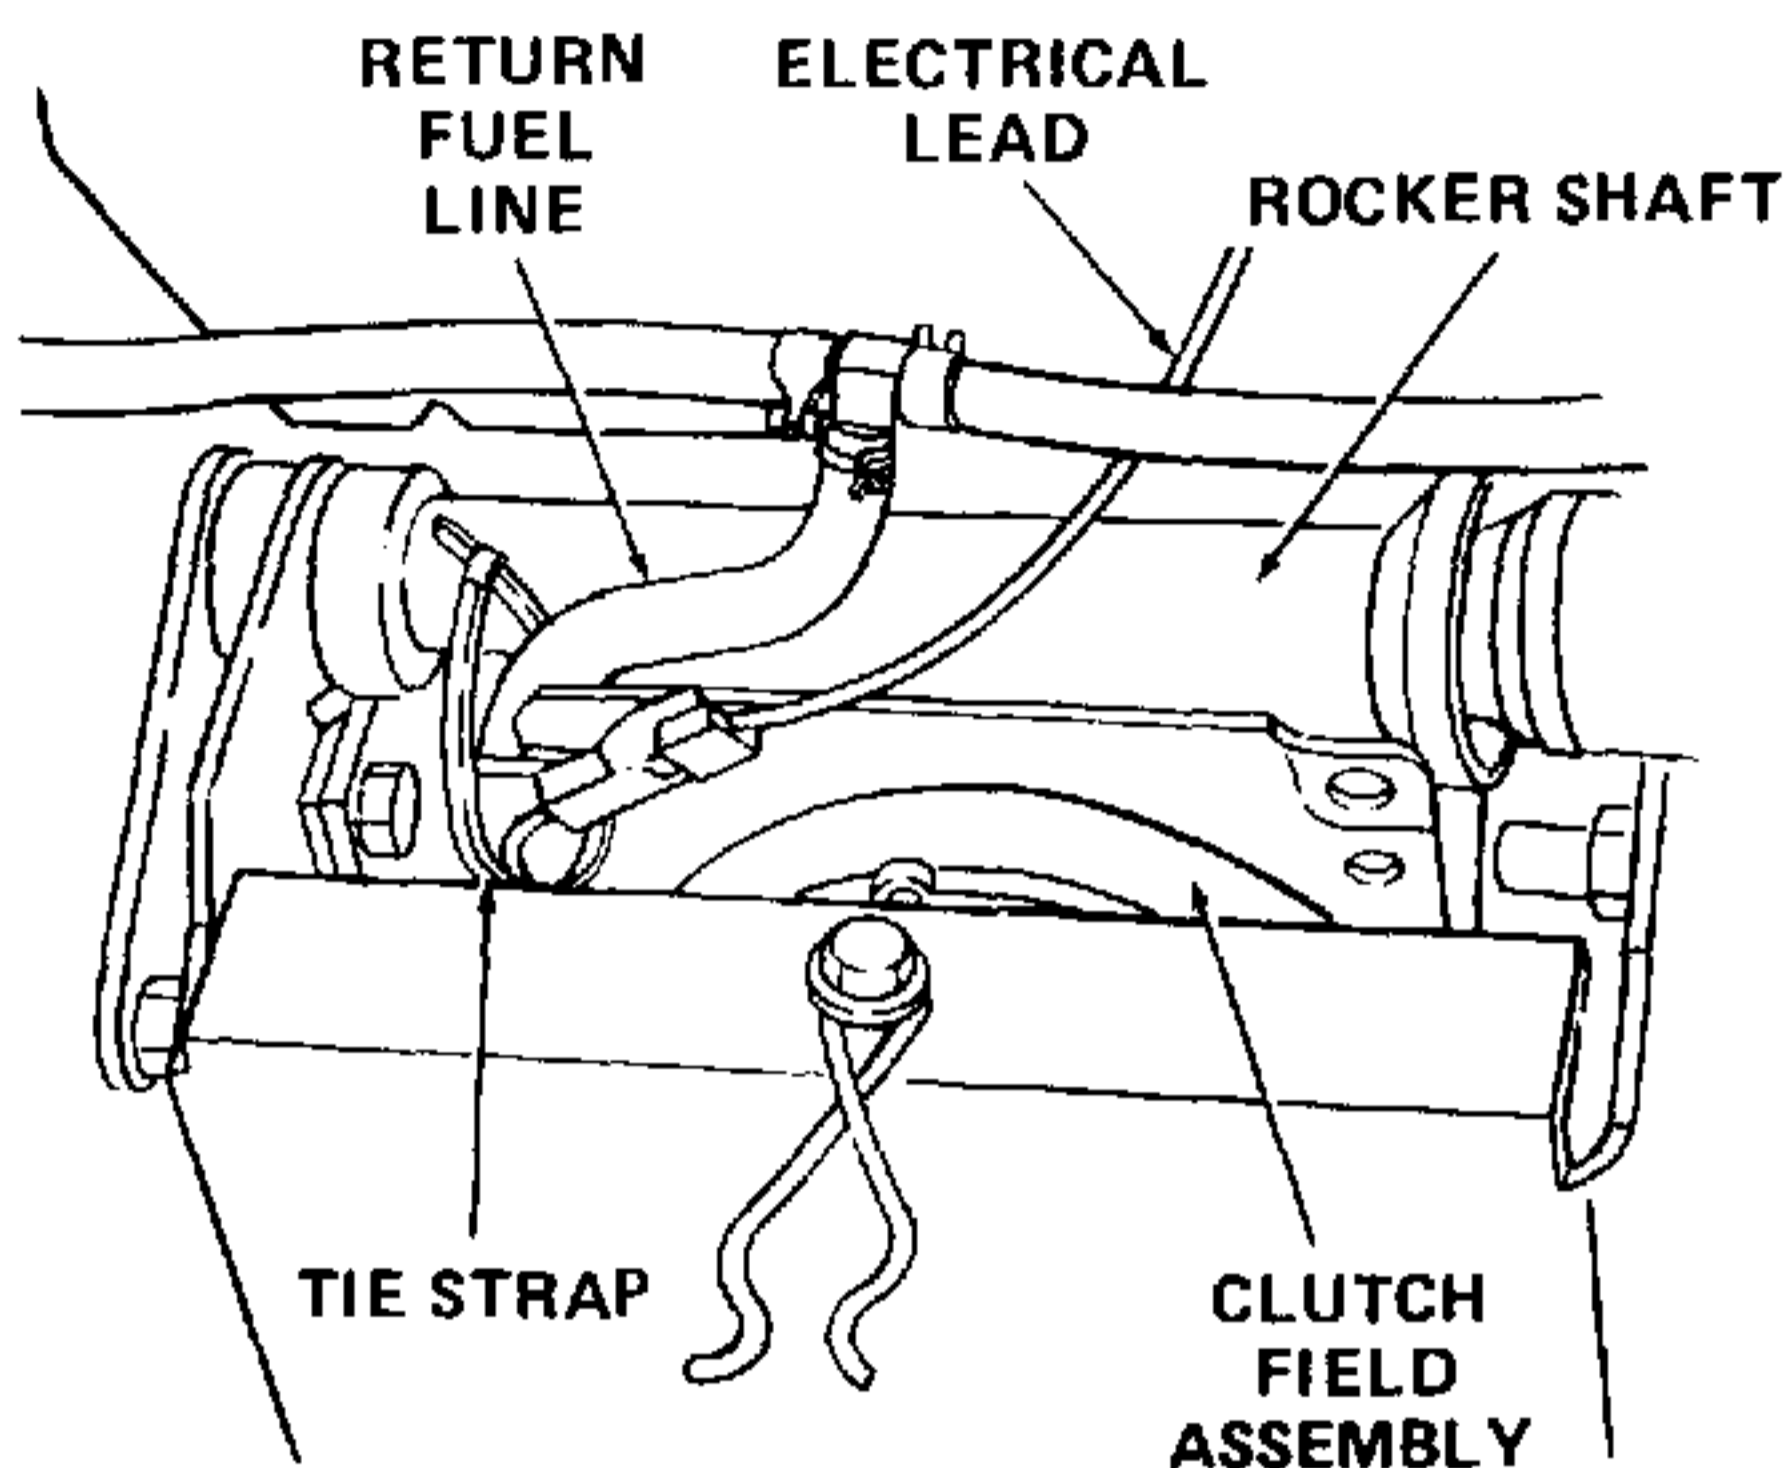

Figure 7-35. Securing Return Fuel Line and Electrical Lead.
- c. Secure return fuel line and electrical lead for rear PTO to clutch field assembly with tie strap. Refer to Figure 7-35.